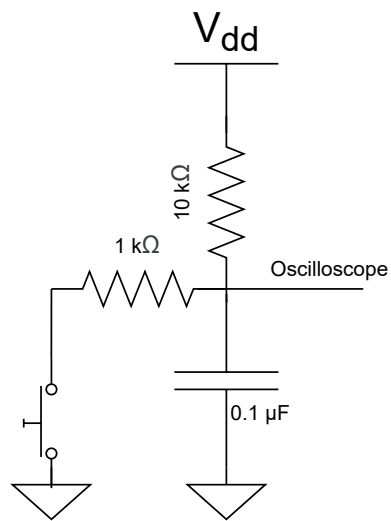

Figure 2.3: Button filter electronic schematic.
3. Now, we will try to filter out the bounces. Add the filter depicted in Figure 2.3.